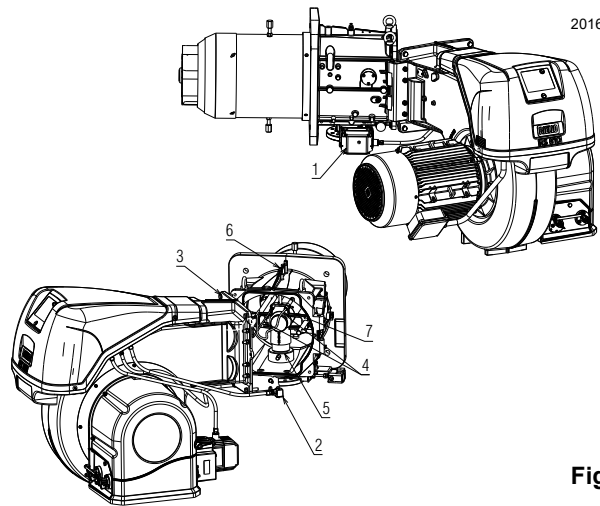

Fig. 16
- Disconnect the socket 2)(Fig. 16) of the gas pressure switch.
- Open the burner on the hinge as in Fig. 16.